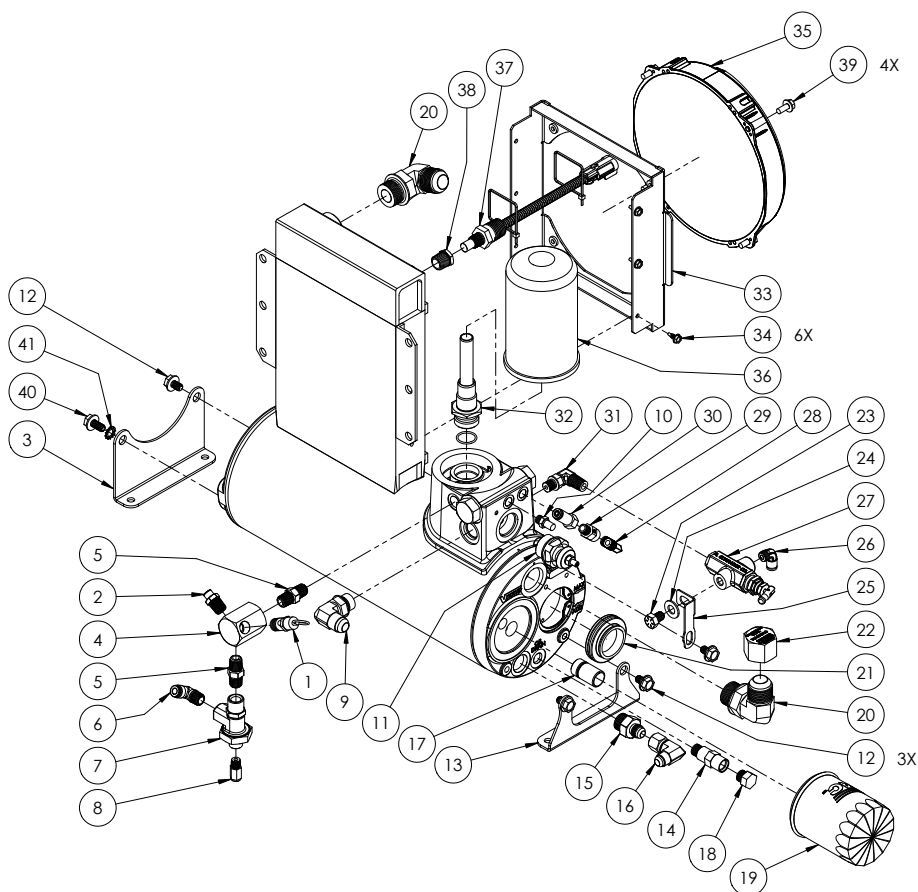

Figure 78 — WHASP Tank
4. WHASP Tank, 9240014 (Figure 78 on page 104)